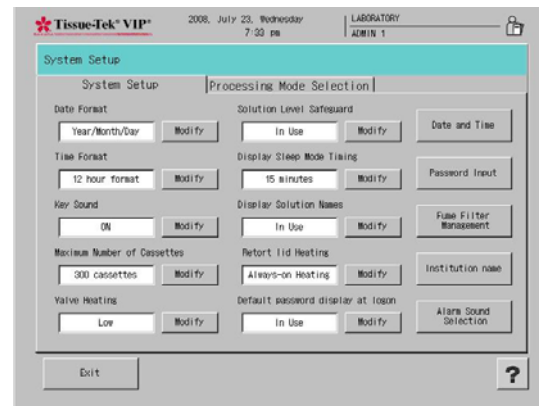

Figure 3-D
- The System Setup screen displays (Figure 3-D).